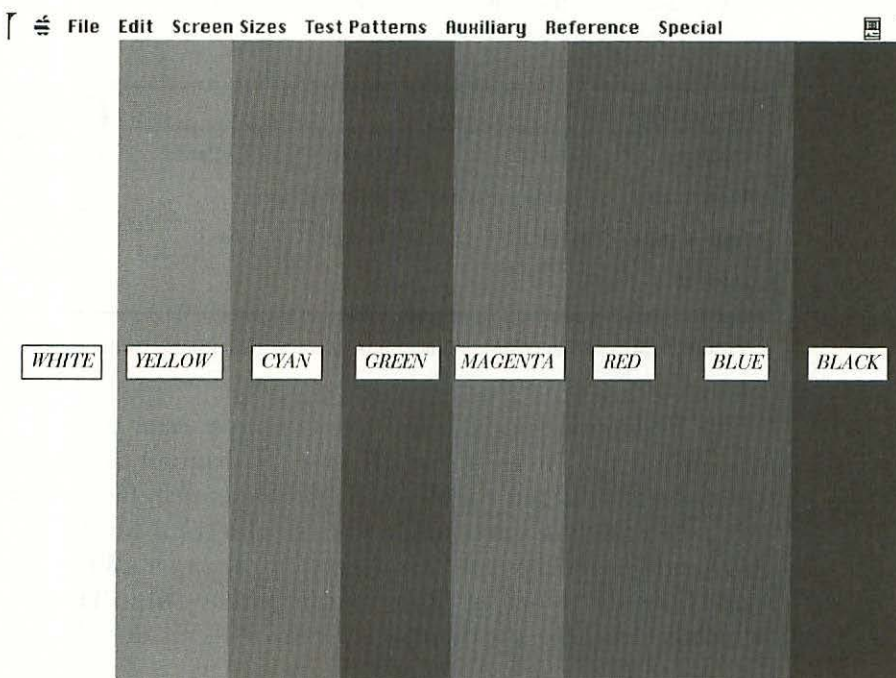

Figure 3-24 The Color Bars test pattern displays eight standard color bars in the usual order: white, yellow, cyan, green, magenta, red, blue, and black.
6. Choose Color Bars (Apple-Option-C) from the Test Patterns menu. As shown in Figure 3-24, this test displays eight standard color bars in the usual order: white, yellow, cyan, green, magenta, red, blue, and black.